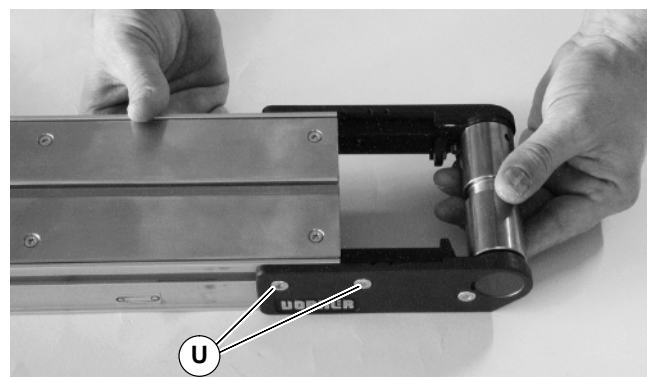

Figure 43
1. On both sides of conveyor, loosen two (2) fastening screws (U of Figure 43). Then slide idler pulley assembly out from the conveyor frame.